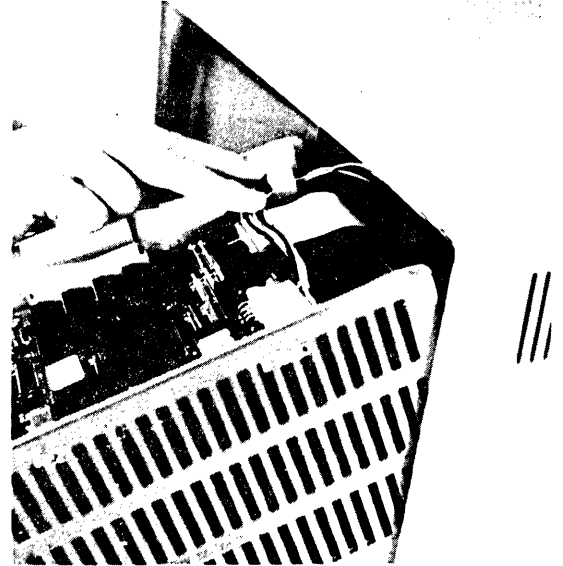

FIGURE 4
6. While supporting the bottom of the carrier with one hand, pry open the plastic cable clamp and remove the power cable (see Figure 4).